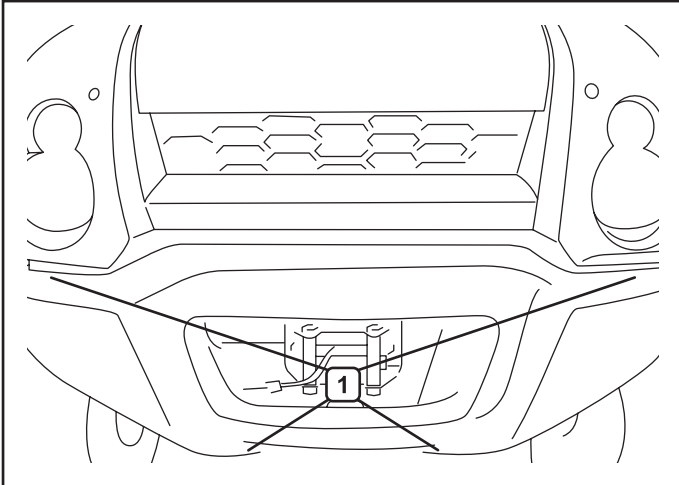

Figure 1.
1. Remove the front bumper cover by removing bolts (1). See figure 1.